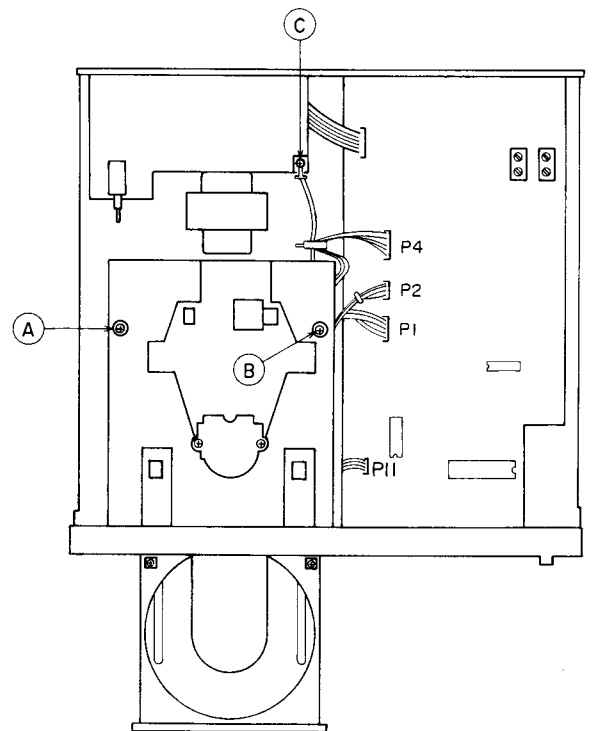

Fig. 4-1
- ① While power is on, set the disc tray to open condition by press the OPEN/CLOSE button, then turn off the power.
- ② Disconnect the connectors P1, P2, P4 and P11 on the MAIN PCB.
- ③ Remove the screws (A), (B) and (C). (Refer to Fig. 4-1)
- ④ Press the disc tray and set the disc tray to close condition.
- ⑤ Remove the FRONT PANEL.